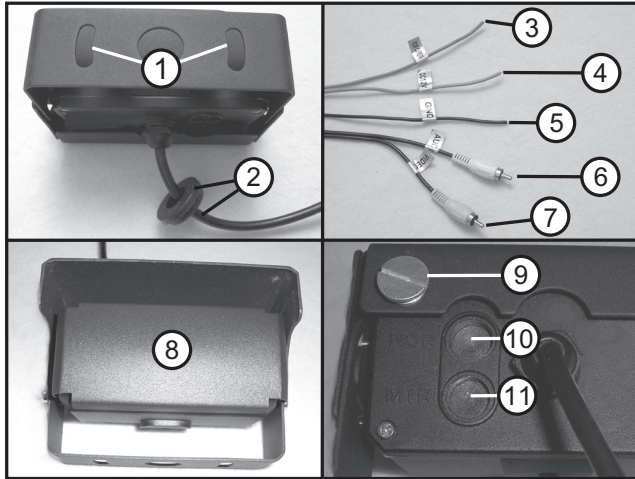

Figure 2
- Place the camera along with the mounting bracket (figure 1, pos. 4) on the intended mounting location and mark the mounting holes in the middle of the two slots of the mounting bracket (figure 2, pos. 1). Drill the mounting holes, suitable for the screws to be used, with an appropriate drill.
- Check whether your vehicle already has a suitable opening that can be used to lead the camera's connection cable with 5-pole plug (Fig. 2, Pos. 2) into the interior of the vehicle. Otherwise, you must drill a corresponding hole at a suitable spot. To be able to correctly install the cable seal attached to the camera's cable (Fig. 2, Pos. 2), the drilled hole must have a diameter of 20 mm.
- Engage the power supply for the camera. For this purpose, connect the black cable ("GND", figure 2, pos. 5, approx. 3.5 meters long) with the vehicle mass (negative, e.g. for the reversing light) and the red cable ("DC 12V", figure 2, pos. 4, approx. 10 meters long) with a 12V-positive cable which only carries voltage when the ignition is turned on (e.g. under the dashboard). Connect the pink cable ("for camera", figure 2, pos 3, approx. 3.5 meters long) to a cable which connects the reverse lighting with the positive pole of the battery when you go into reverse gear (e.g. the backup light).
- Connect the audio output (figure 2, pos 6, white connector) and video output (figure 2, pos 7, yellow connector) to the monitor that you have been provided for the number plate camera. A suitable extension cable is not included in the delivery and must be purchased for the required length separately.
- Carry out a test run according to the following point "Operation of the number plate camera." Check the function of the number plate camera before the final mounting of the camera. Decide whether you want to mirror the image signal left/right. You can mirror the video signal by turning the magnetic drain plug (figure 2, pos 9) from "NOR" (fig. 2, pos 10) to "MIR" (fig. 2, pos. 11).
In darkness, the backup area is illuminated by the infrared LEDs (fig. 1, pos. 3) integrated in the camera, which makes the recognition of obstacles easier. The infrared LEDs are switched on automatically via the built-in light sensor (fig. 1, pos. 6). If you change back to forward gear, the camera shutter closes again (fig. 2, pos. 8) and thus protects the camera from outside influences.